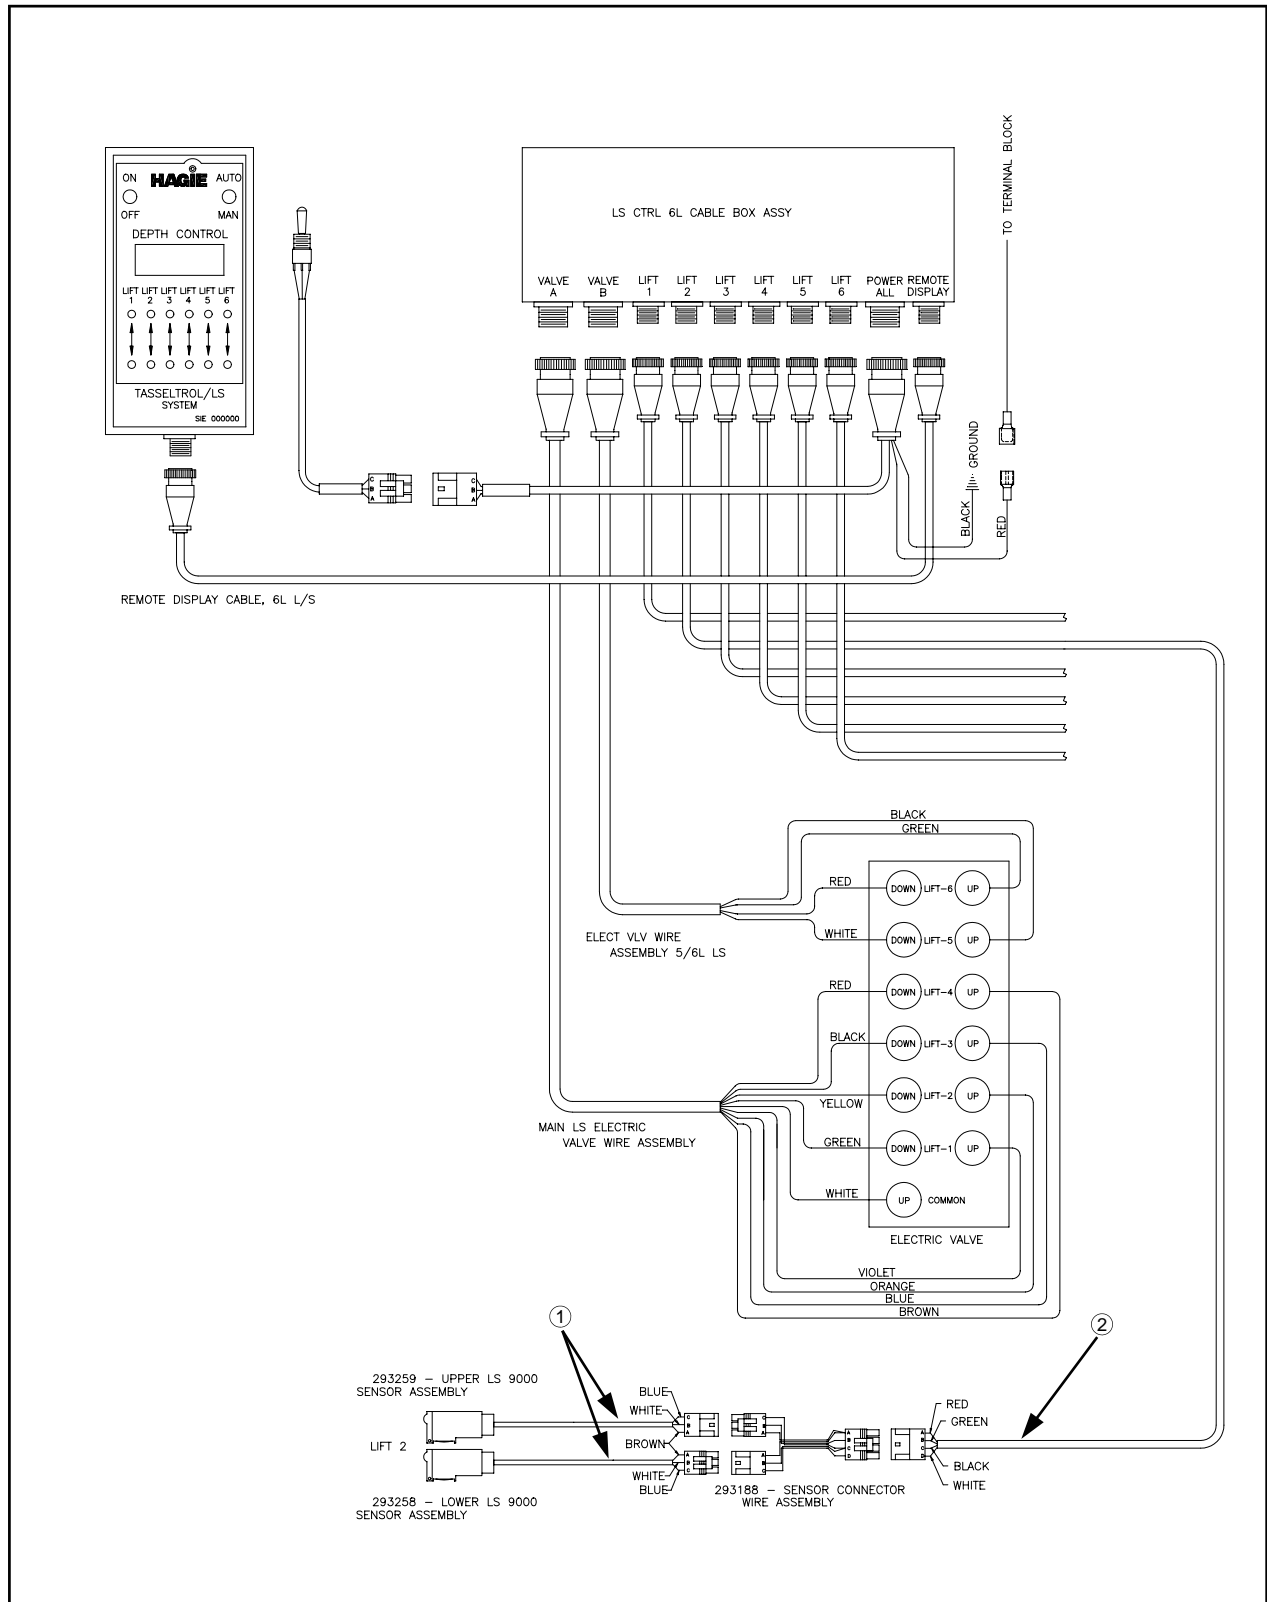

FIG 6.1
No lights at either photo sensor	Faulty connector cable (See page 54, fig. 6.1, item 2) Faulty RED and/or BLACK wire in connector cable (See page 54, fig. 6.1, item 1)
Lights at lower photo sensor	<p>Faulty GREEN wire in connector cable (See page 54, fig. 6.1, item 2)</p> <p>Photo sensor not in line with reflector (See page 20)</p> <p>Faulty BLUE wire in sensor assembly (See page 54, fig. 6.1, item 1)</p>
No lights at lower photo sensor	<p>Faulty RED and/or BLACK wire in connector cable (See page 54, fig. 6.1, item 2)</p>
Lights at upper photo sensor	Faulty WHITE wire in sensor assembly (See page 54, fig. 6.1, item 1) Faulty BLUE wire in sensor assembly (See page 54, fig. 6.1, item 1)
No lights at upper photo sensor	Faulty RED and/or BLACK wire in connector cable (See page 54, fig. 6.1, item 2)